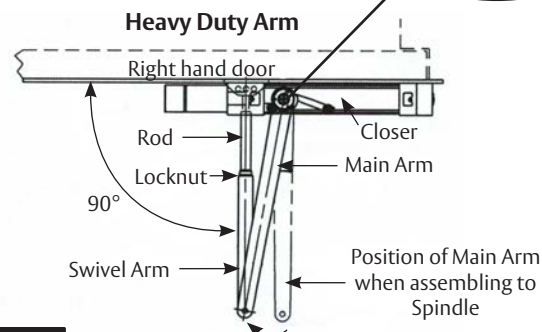

Figure 6
2. Adjust length of rod assembly to position rod at right angle to door. (Figure 6)